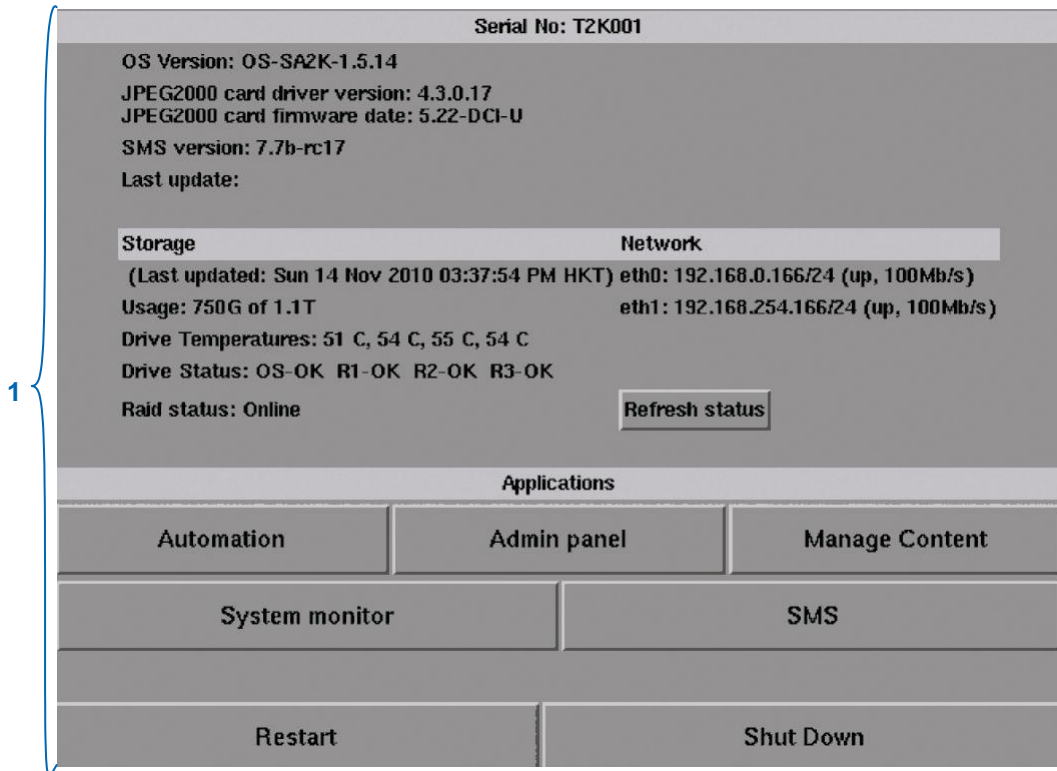

Figure 16 Control Panel menu.
- 1 Switch **ON** the server and allow it to boot up to prompt directly to the **SMS** interface. When the SMS interface is shown, push the **ON/OFF** button once or press the **Control Panel** button and a new window for the **Control Panel** menu opens as shown in **Figure 16**. The **Control Panel** includes the **Automation** button, **Admin panel** button, **Manage Content** button, **System monitor** button, **SMS** button, **Restart** button, **Shutdown** button and a **Refresh status** button. System information including the serial number, OS version, SMS version, network and storage information can also be seen on the Control Panel UI.